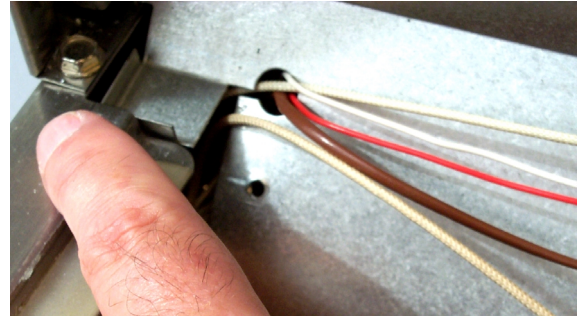

Figure 3: The wires for the hi-limit are routed through the hole used by the RTD wiring. Slip the wires into slot (shown above) and into the hole.
12. Slip the wires from the hi-limit into the passage the RTD wires pass through, using the slot to the left. Widen the slot, if necessary, with a screwdriver blade. See Figure 3.